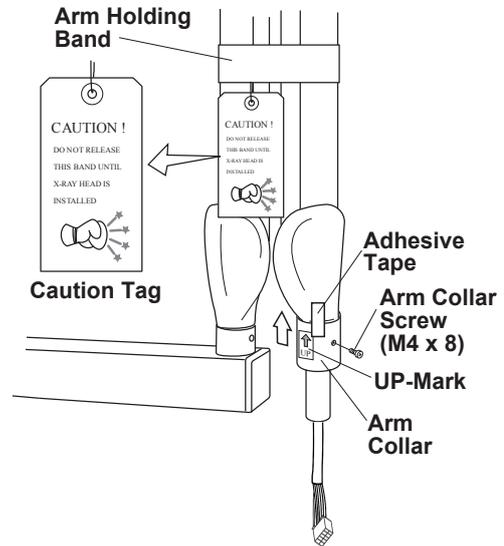

Fig.3-15 Setting Arm Collar on Balance Arm
1. Remove the arm collar screw (M4 x 8mm) from the arm collar. Slide the arm collar upward and temporarily hold it in position with adhesive tape. (Fig.3-15)